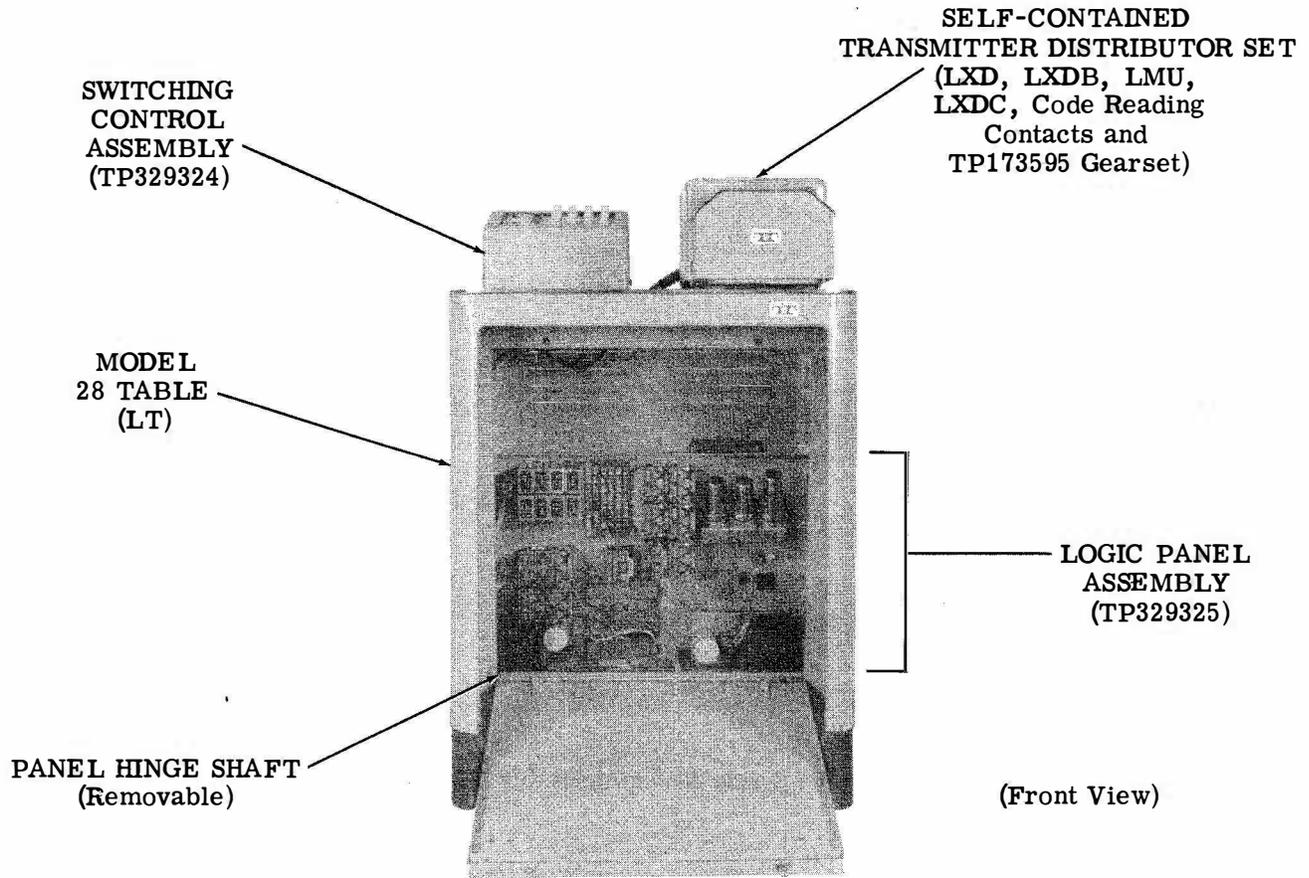

Figure 3 - Manual Message Address Segregator With Front Panel Open
2.04 Addressed message transmission is accomplished by means of the Self-Contained Transmitter Distributor Set (LXD Type) of the segregator (Figure 3). This transmitter distributor set has special code reading contacts and includes the proper base, synchronous motor unit, TP173595 gearset, cover, and cables.
2.06 All logic, power supply, and terminal boards for external equipment connections, option strapping, and programming are mounted on the TP329325 logic panel assembly which is mounted behind the front panel in the lower part of the table (Figures 3 and 4).
3. TP329325 Logic Panel Assembly (Mounted in Table - Figures 3 and 4).